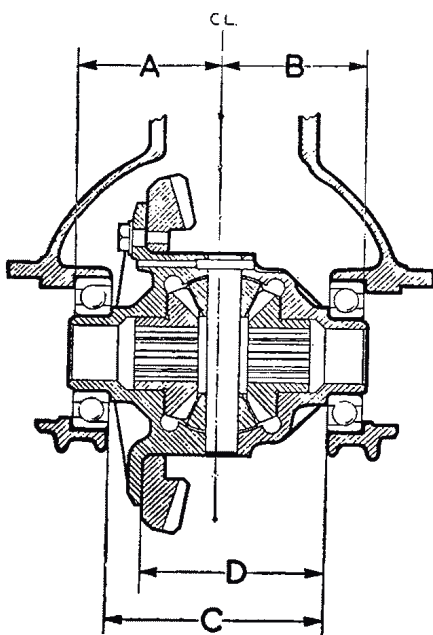

Fig. H.5
- (1) Before fitting the crown wheel and differential assembly to the gear carrier it is necessary to calculate the shim thickness required behind each bearing to give the required pinch. To facilitate the calculation, machining variations are indicated by stamped numbers on the carrier adjacent to the bearing bores. The dimensions to be considered are shown in Fig. H.5, (A) being the distance from the centre-line to the bearing register of the carrier on the left-hand side, and (B) the distance from the centre-line to the bearing register of the carrier on the right-hand side. The (C) dimension is from the bearing register on one side of the cage to the register on the other side, while the (D) dimension is from the rear face of the crown wheel to the bearing register on the opposite side. Any variation from nominal on the (A) dimension will be found stamped on the carrier adjacent to the bearing bore, and similarly with the (B) dimension. The variations from nominal on (C) and (D) dimensions are stamped on the machined face of the differential cage.